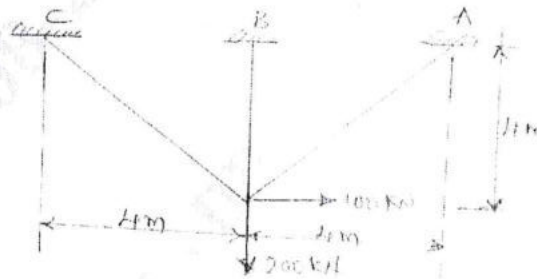

Fig. Q8
- 8 Analyze the pin jointed truss shown in Fig. Q8 by flexibility matrix method and determine the forces in the members. Take force in the number OA is redundant. (20 Marks)